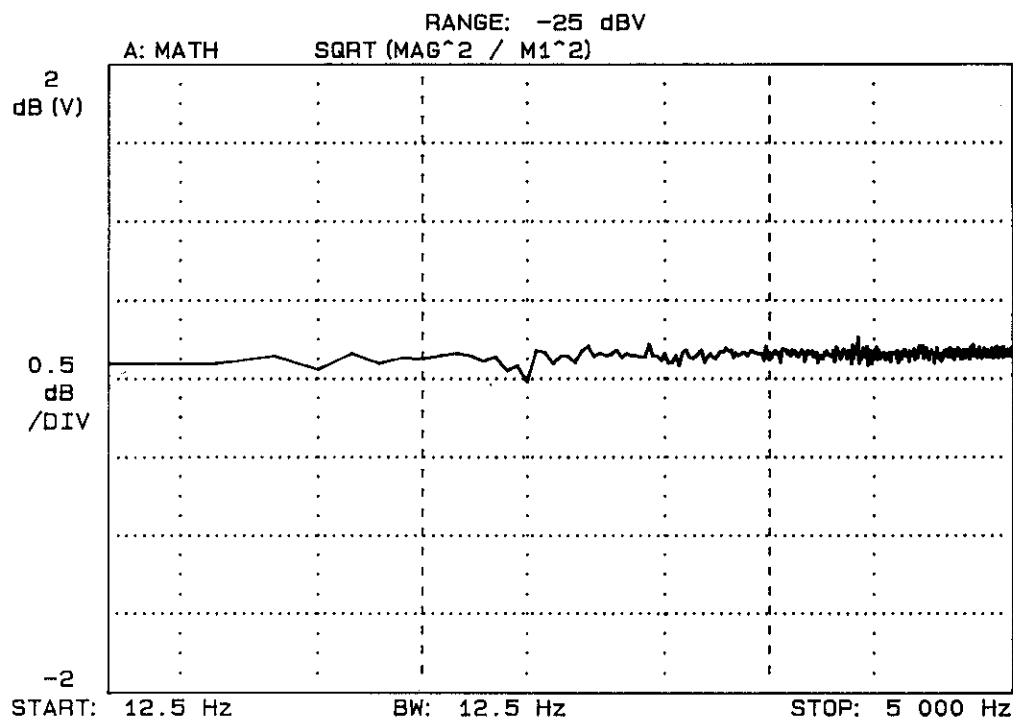

Figure 20. Typical Low-Noise Amplifier Impedance Match Adjustment
11. Adjust A4R51 as instructed. Refer to Figure 20 which shows a typical result after adjustment.
15. Adjust A4R70 as instructed. The result should be similar to the one in figure 20.